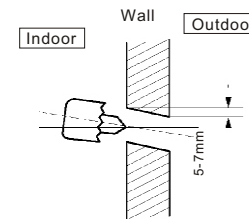

Fig.3
3. Drill the piping hole at either the right or the left and the hole should be slightly slanted to the outdoor side, see Fig.3.